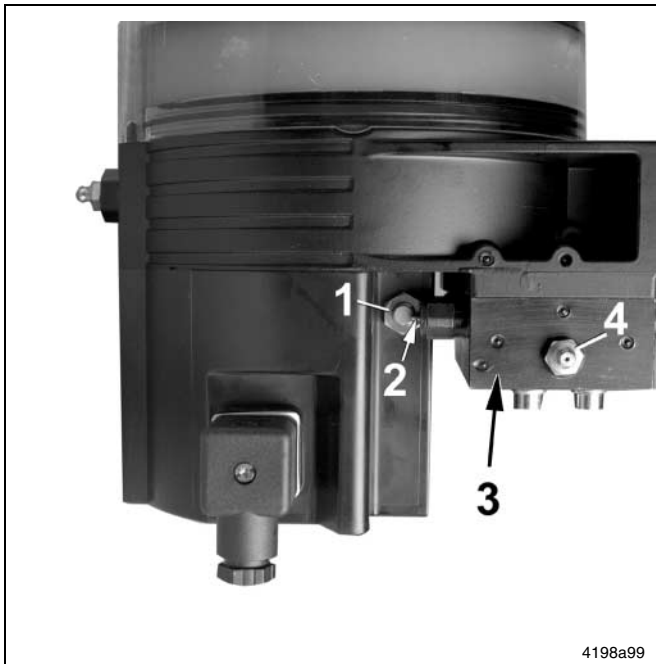

Fig. 19 QLS 301 with back position of the SSV divider block
- SSV divider block mounted on the back (see Fig. 19)
- When all lubrication points have received lubricant, an internal proximity switch 1 Fig. 19 (initiator) turns the motor off, completing one lubrication cycle.